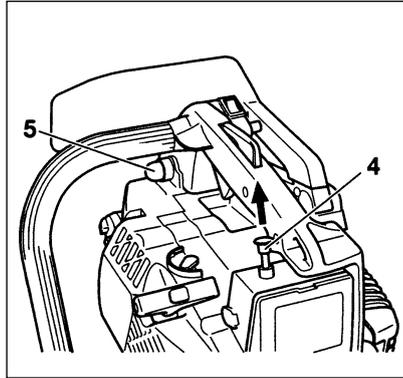

Fig. 2-3
1. Set ignition switch (1) to ON position.
- * Push priming bulb (5) several times so that fuel flows through bulb into carburetor. (If so equipped)(Fig. 2-3)
3. Pull choke knob to choked position (4). (Fig.2-3)